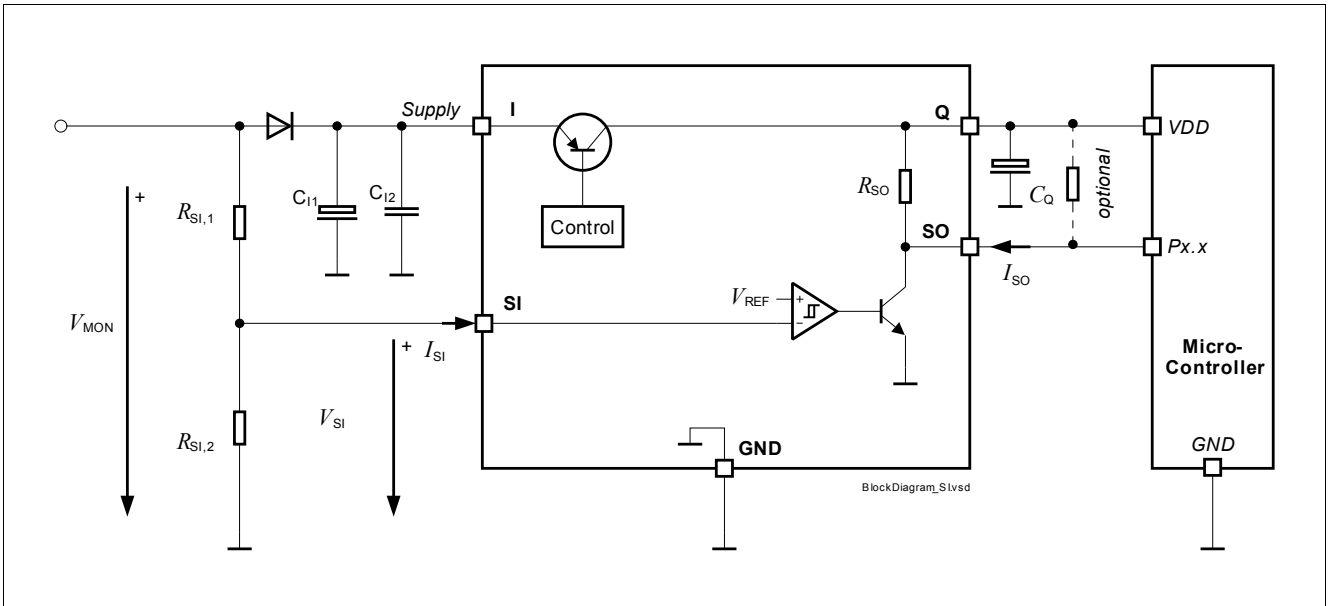

Figure 9 Diagram
- $R_{SI,1}$ ,  $R_{SI,2}$ : Resistors of the external voltage divider, see Figure 9.
$V_I = 13.5\text{ V}$ ,  $T_j = -40\text{ }^\circ\text{C}$  to  $+150\text{ }^\circ\text{C}$ , all voltages with respect to ground, direction of currents as shown in Figure 9 (unless otherwise specified)